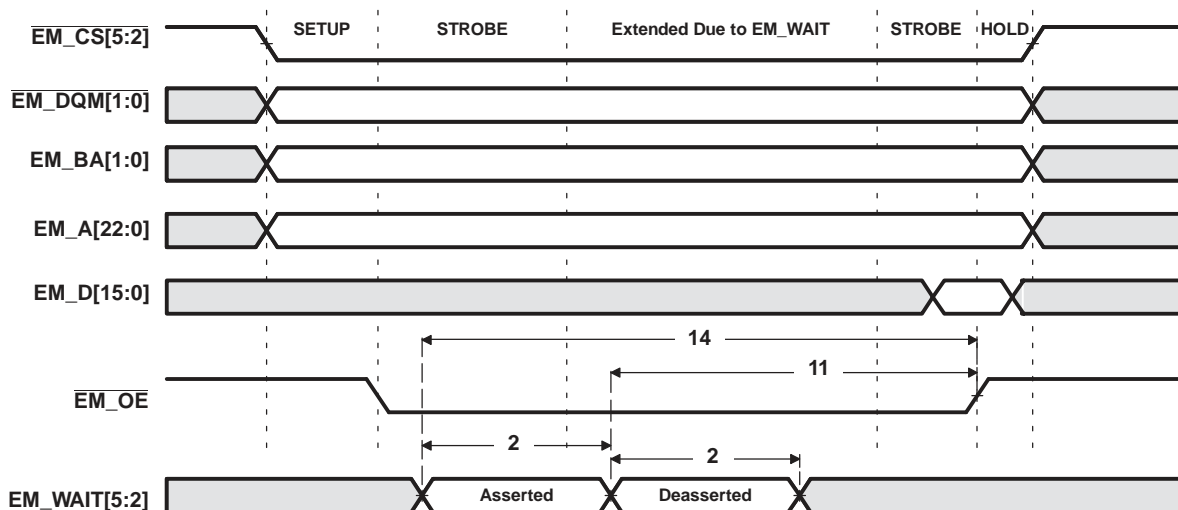
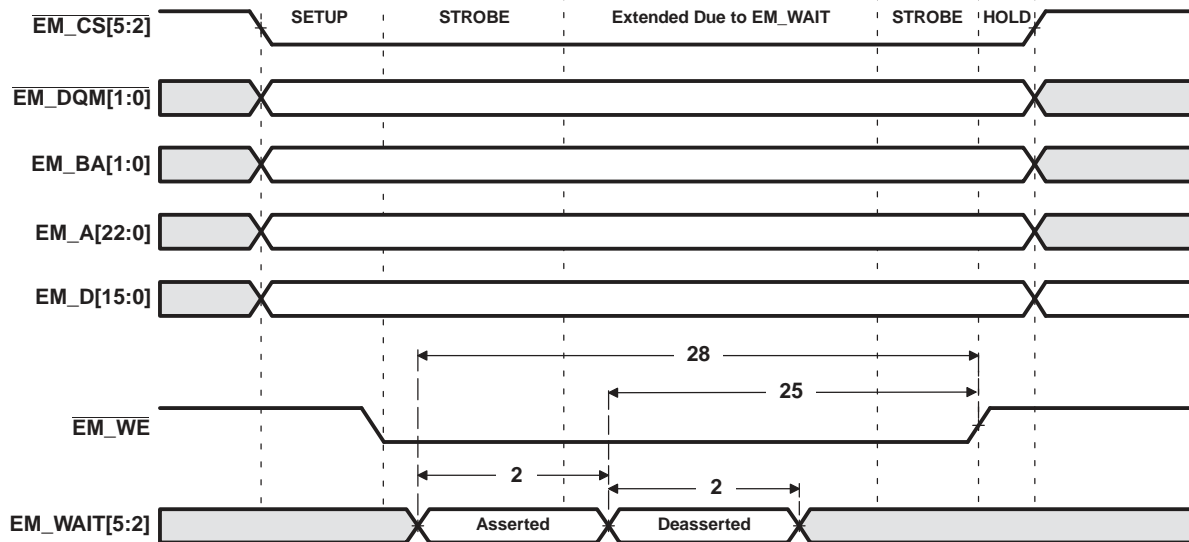

Figure 6-23. EM_WAITx Read Timing Requirements
Figure 6-24. EM_WAITx Write Timing Requirements
(1) E = SYSCLK3 period in ns for EMIFA. For example, when running the DSP CPU at 1 GHz, use E = 4 ns.
(2) Setup before end of STROBE phase (if no extended wait states are inserted) by which EM_WAITx must be asserted to add extended wait states. Figure 6-23 and Figure 6-24 describe EMIF transactions that include extended wait states inserted during the STROBE phase. However, cycles inserted as part of this extended wait period should not be counted; the 4E requirement is to the start of where the HOLD phase would begin if there were no extended wait cycles.